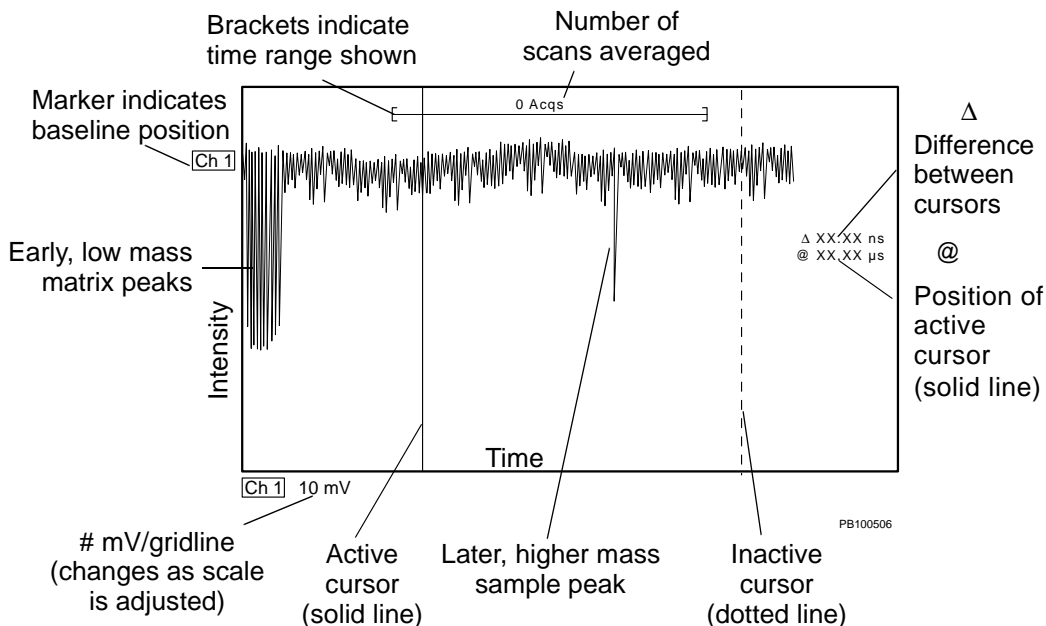

Figure I-3 Example of Signal on Oscilloscope
- Make sure the full range of the signal is displayed. Brackets must overlap the end range markers (see Figure I-3). If brackets do not overlap, turn the Horizontal Scale and Horizontal Position knobs until the left bracket overlays the left marker.
The spectrum you see on the oscilloscope is inverted (Figure I-3).
The Channel indicator (Ch1 in Figure I-3) displays Ch1 in Linear mode. On Voyager-DE PRO and Voyager-DE STR systems, the Channel indicator displays Ch2 in Reflector mode.